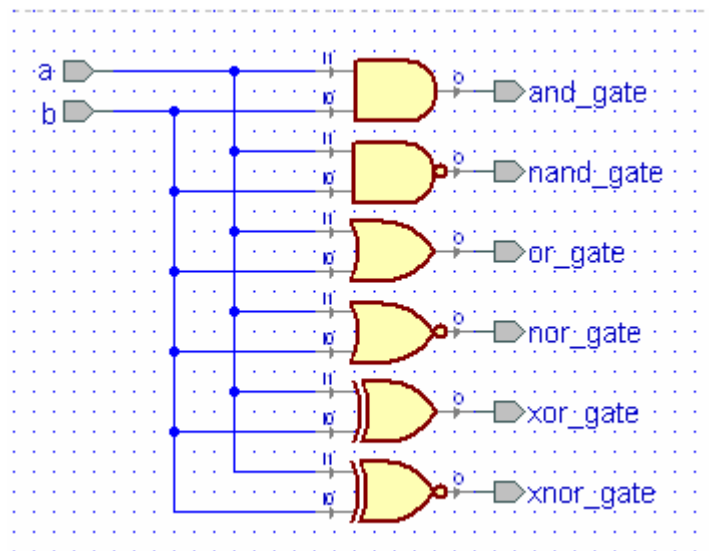
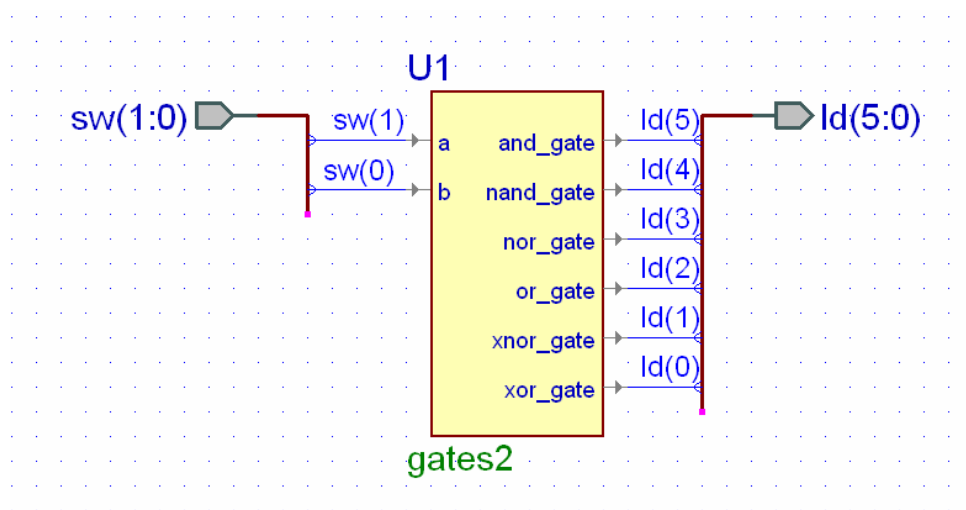

Figure 2.1 Circuit diagram for Example 2
Figure 2.3 Top-level design for Example 2
Part 4 of the tutorial in Appendix A shows how to connect two inputs *a* and *b* to the inputs of six different gates using the block diagram editor (BDE) in Active-HDL. The result is shown in Fig. 2.1. Note that we have named the outputs of the gates the name of the gate including an underscore. Identifier names in VHDL can contain any letter, digit, underscore `_`, or `$`. The identifier can not begin with a digit or be a VHDL keyword. VHDL is *not* case sensitive.
The logic diagram in Fig. 2.1 contains six different gates. This logic circuit is described by the VHDL program shown in Listing 2.1. The first line in Listing 2.1 is a comment. Comments in VHDL follow the double dash `--`. All VHDL programs begin with an *entity* statement containing the name of the entity (*gates2* in this case) followed by a list of all input and output signals together with their direction and type. We will generally use lower case names for signals. The direction of the input and output signals is given by the VHDL statements *in*, *out*, or *inout* (for a bi-directional signal).
To describe the output of each gate in Fig. 2.1 we simply write the logic equation for that gate preceded by the assignment operator, `<=`. These are *concurrent* assignment statements which means that the statements can be written in any order.
Part 5 of the tutorial in Appendix A shows how to create a top-level design for the *gates2* circuit. In order to use the constraint files *basys2.ucf* or *nexys2.ucf* described in Example 1 we must name the switch inputs *sw(i)* and the LED outputs *ld(i)*. This top-level design, as created in Part 5 of Appendix A is shown in Fig. 2.3. The module *gates2* in Fig. 2.3 contains the logic circuit shown in Fig. 2.1. Note that each wire connected to a bus must be labeled to identify its connection to the bus lines.
Compiling the top-level design shown in Fig. 2.3 will generate the VHDL program shown in Listing 2.2. The inputs are now the two rightmost slide switches, *sw*(1:0), and the outputs are the six right-most LEDs *ld*(5:0). To associate these inputs and outputs with the inputs *a* and *b* and the six output in the *gates2* component in Fig. 2.1 and Listing 2.1 we use the VHDL *port map statement*
This VHDL *port map* statement begins with an arbitrary name for the component in the top-level design. Here we call it U1. This is followed by the name of the component being instantiated, in this case *gates2* from Listing 2.1. Then using the *port map* statement enclosed in parentheses are the inputs and outputs from Listing 2.1 associated with corresponding inputs and outputs in the top-level design in Fig. 2.3. Note that we connect the input *a* in Listing 2.1 to the input *sw*(1) on the FPGA board. The input *b* in Listing 2.1 is connected to *sw*(0) and the outputs *and_gate*, *nand_gate*, *or_gate*, *nor_gate*, *xor_gate*, and *xnor_gate* are connected to the corresponding LED outputs *ld*(5:0). These associations can be made in this way in any order. The *port map* statement in Listing 2.2 generated from the top-level block diagram are associated in alphabetical order.